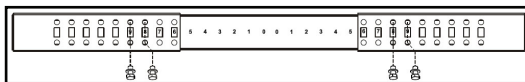

Figure 3
- Insert eight **M8 Bolts** through eight **M8 Washers** and into the holes in the **Corner Sections** (x2) and **Center Sections**. (Figure 3)